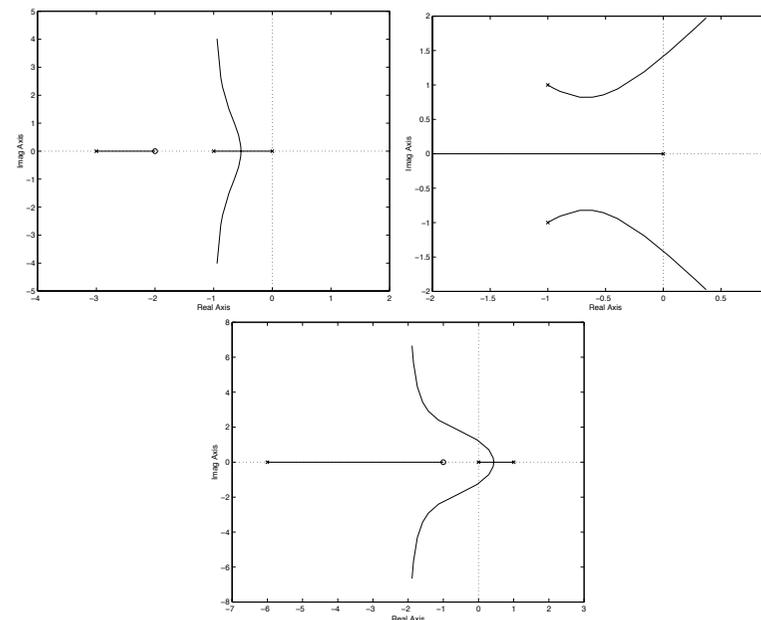

Figure 3.5a
3.5 Root loci are shown in Figure 3.5a.